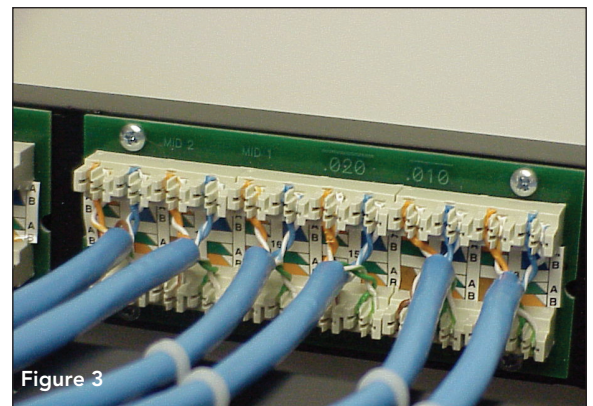

Figure 3
- 4.4 Position the cable at the appropriate 110 module and insert the cable into the color-coded slots of the 110 connectors. The white conductor of each pair shall be inserted right of the color code and the solid colored conductor to the left of the color code. Be sure to follow the appropriate color code associated with the desired wiring pattern (T568B or T568A). See Figures 3, 4, and 5.